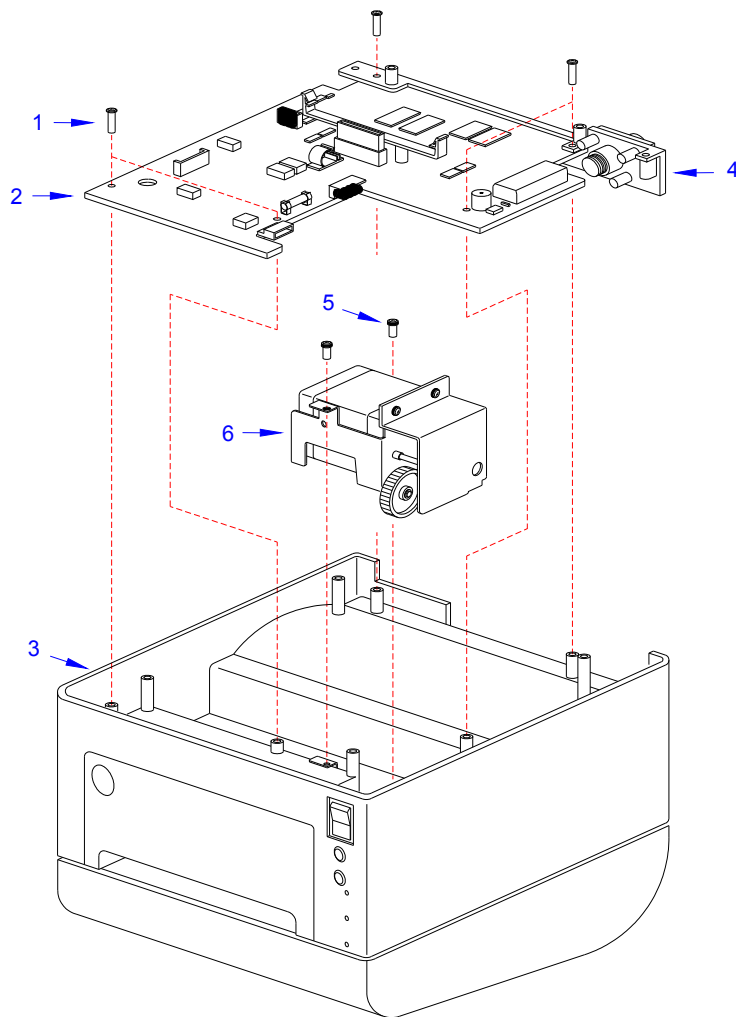
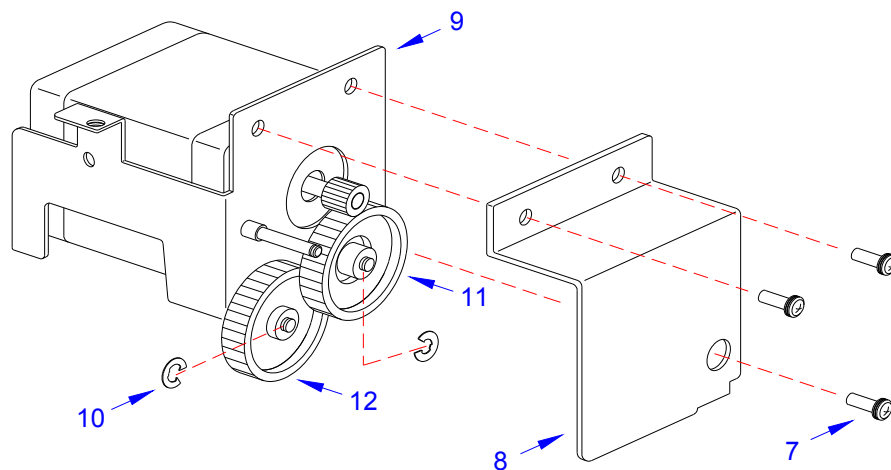

Figure 4-11a, Drive Gear Replacement
Figure 4-11b, Drive Gear Replacement
- 3 Remove the five screws (1, Figure 4-11a) that secure the main circuit board (2) to the printer (3).
- 4 Disconnect all wiring harnesses from the defective main circuit board (2).
- 5 Remove the circuit board (2), along with the interface cover (4), from the printer (3), and set it aside.
- 6 Remove the two screws (5) securing the drive train (6) to the printer (3).
- 7 Withdraw the drive train (6) from the printer (3) and disconnect the motor's wiring harness.
- 8 Remove the three screws (7) (See Figure 4-11b) that secure the gear cover (8) to the motor bracket (9).
- 9 Detach the two snap rings (10) securing the worn gears (11 & 12) and remove.
- 10 Insert replacement gears (12 & 11) onto their relative spindles using the snap rings (10).
- 11 Attach the gear cover (8) to the motor bracket (9) using three screws (7).
- 12 Insert the drive train (6) (See Figure 4-11a) into the printer (3) and secure using two screws (5).
- 13 Connect the motor's wiring harness to the main circuit board (2).
- 14 Install the circuit board (2), along with the interface cover (4), to the printer (3), using five screws (1).
- 15 Reconnect all the appropriate wiring harnesses to the main circuit board (2).